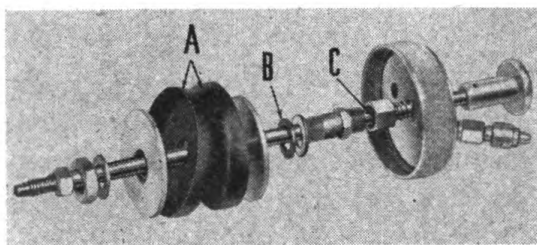

Figure 212
(2) Pull follower out of cylinder and disassemble as shown in Figure 212. Examine cup leathers ("A"), sealing washer ("B"), and packing inside nut ("C"). Replace worn parts and reassemble.